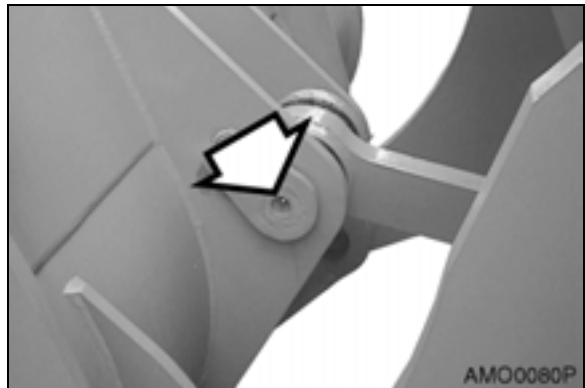

Figure 29
- Bucket link connecting pin, 1 location (Figure 29).